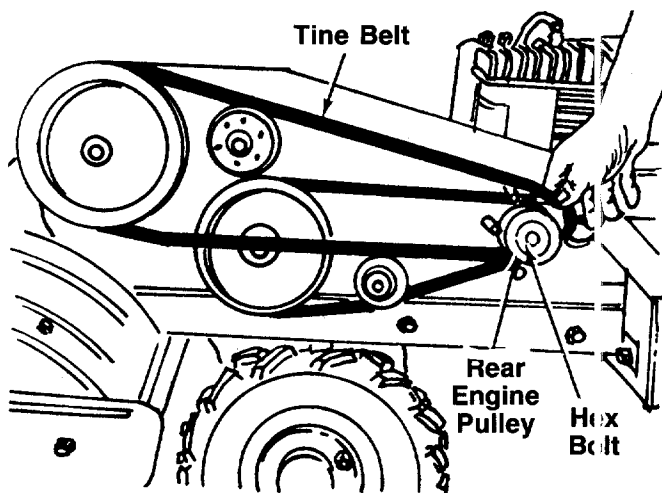

FIGURE 22.
4. Loosen, but do not remove, the hex bolt on the rear engine pulley. See figure 22.
2. Remove the hex bolt, lock washer and flat washer from the rear engine pulley. See figure 22. Slip the rear engine pulley off the engine.